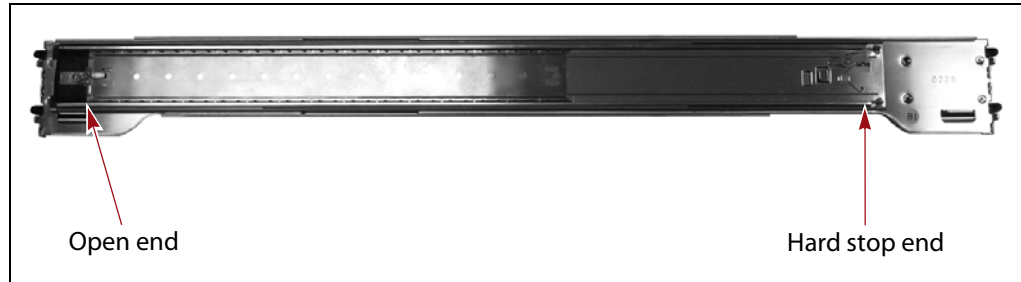

Figure 17 Location of the hard stop and open ends of the outer rack rail.
1. Orient the rack rail with the open end to the left and the inner rail facing you (see Figure 17).